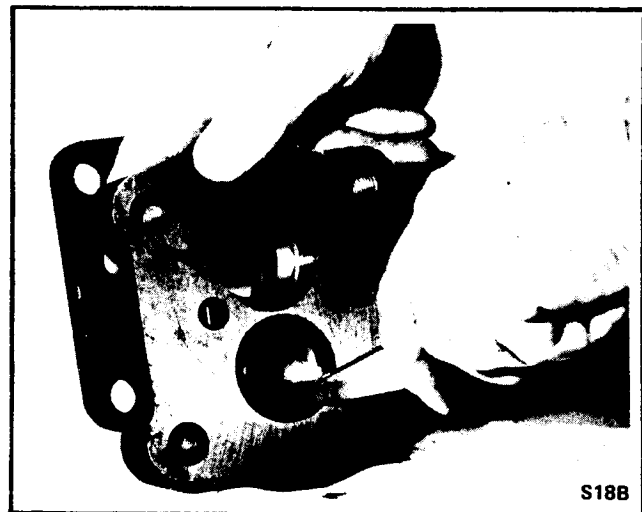

Fig. 20—Deburring Bearing Bores
1. If bearings have been removed, deburr bearing bores. Rinse parts in solvent and air blast all parts. Do not dry with a cloth. See Fig. 20.